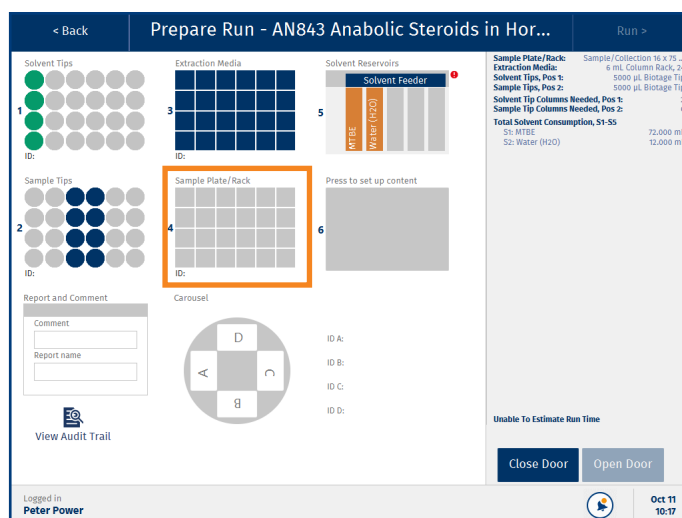

Figure 32. The Enter Sample Information view is reached by pressing position 4 in the Prepare Run view.
1. Press the illustration of the sample plate/rack in the **Prepare Run** view (position 4); see Figure 32.